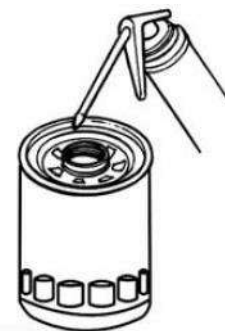

Fig3-12 Replace Oil Filter Element
4.4 Replace spin -on oil filter element; remove oil filter with special tools. Daub a thin coat of oil on the sealing ring of new filter, and install new filter until the filter can be firmly connected with the sealing ring (see Fig3-12). For some filters with paper filter element, filter element is only replaced.